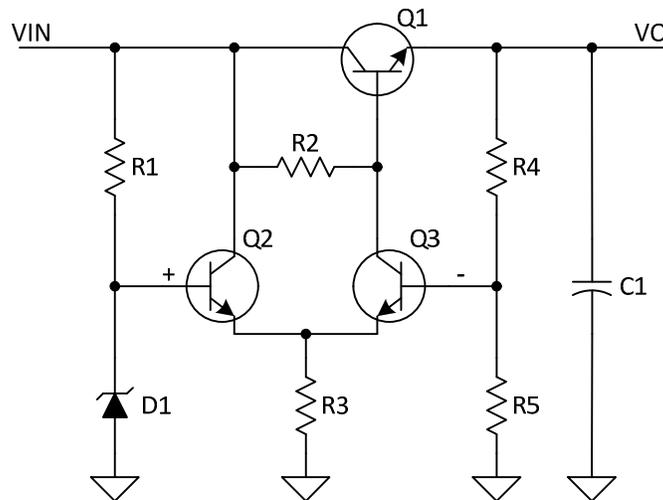
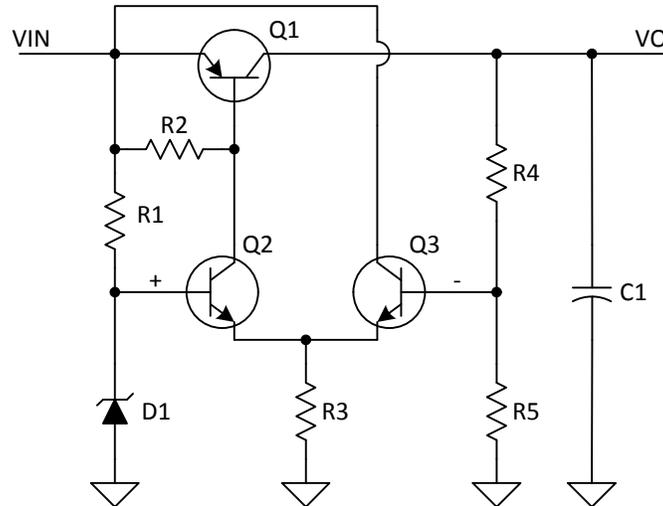

Figure 2: Simple series voltage regulator
Figure 3: Simple series voltage regulator with higher gain
A simple closed-loop series regulator is shown in Figure 2. The unregulated input voltage is  $V_{IN}$  which may vary up and down several volts from nominal. There is a
The circuit in Figure 3 has higher voltage gain and can thus regulate more accurately. This is achieved by changing  $Q_1$  to a PNP and operating it in the common-emitter mode rather than the common-collector mode in Figure 2.
1. In Figure 2 or Figure 3 if the reference voltage were 2.5 volts and  $R_4$  was 10 K and  $R_5$  was 3.33 K, what would the expected output voltage be? (answer: 10 volts)